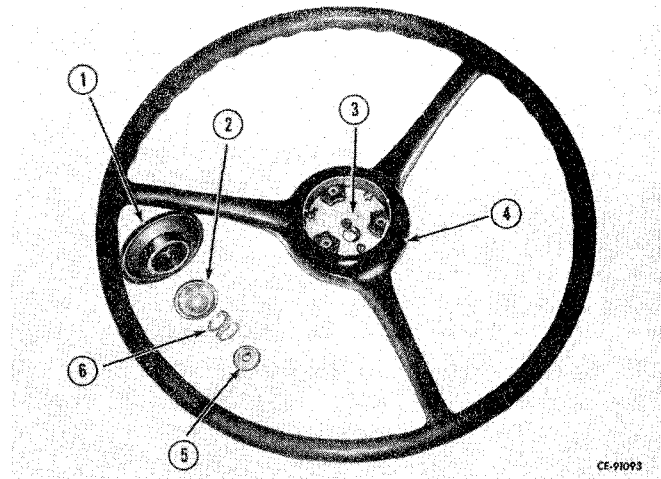

Figure 8-3
Remove horn button (1, Fig. 8-3) from steering wheel (4) by gripping with a firm downward pressure of fingers and twisting either right or left. Remove contact cup (2), spring (6), contact cap (5) and base plate (3) from steering wheel.